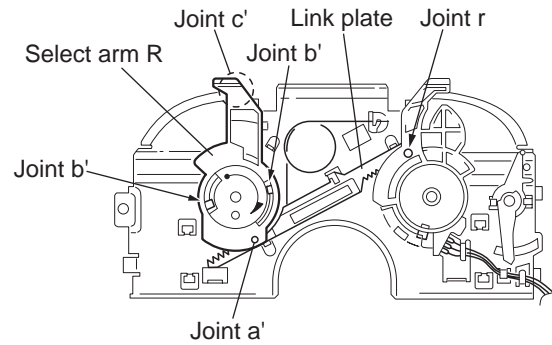

Fig.27
3.2.13 Removing the select arm R / link plate (See Figs.27 and 28)